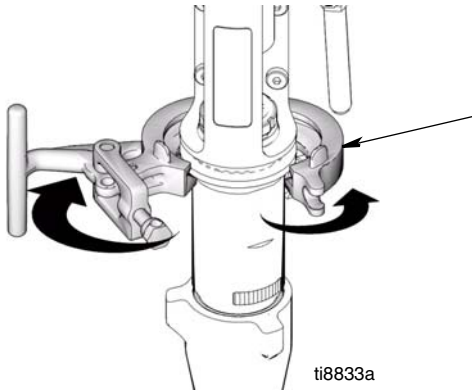

FIG. 18
8. (Fig. 18) Open clamp (247).